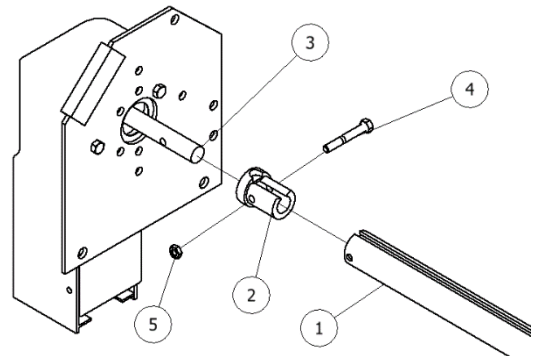

Figure 1.6
Insert the plastic axle caps (2) into both ends of the tarp axle (1). Slide the tarp axle over the motor shaft (3) and secure it with a 5/16" x 2-1/4" bolt (4) and a 5/16" nut (5). (Figure 1.6)